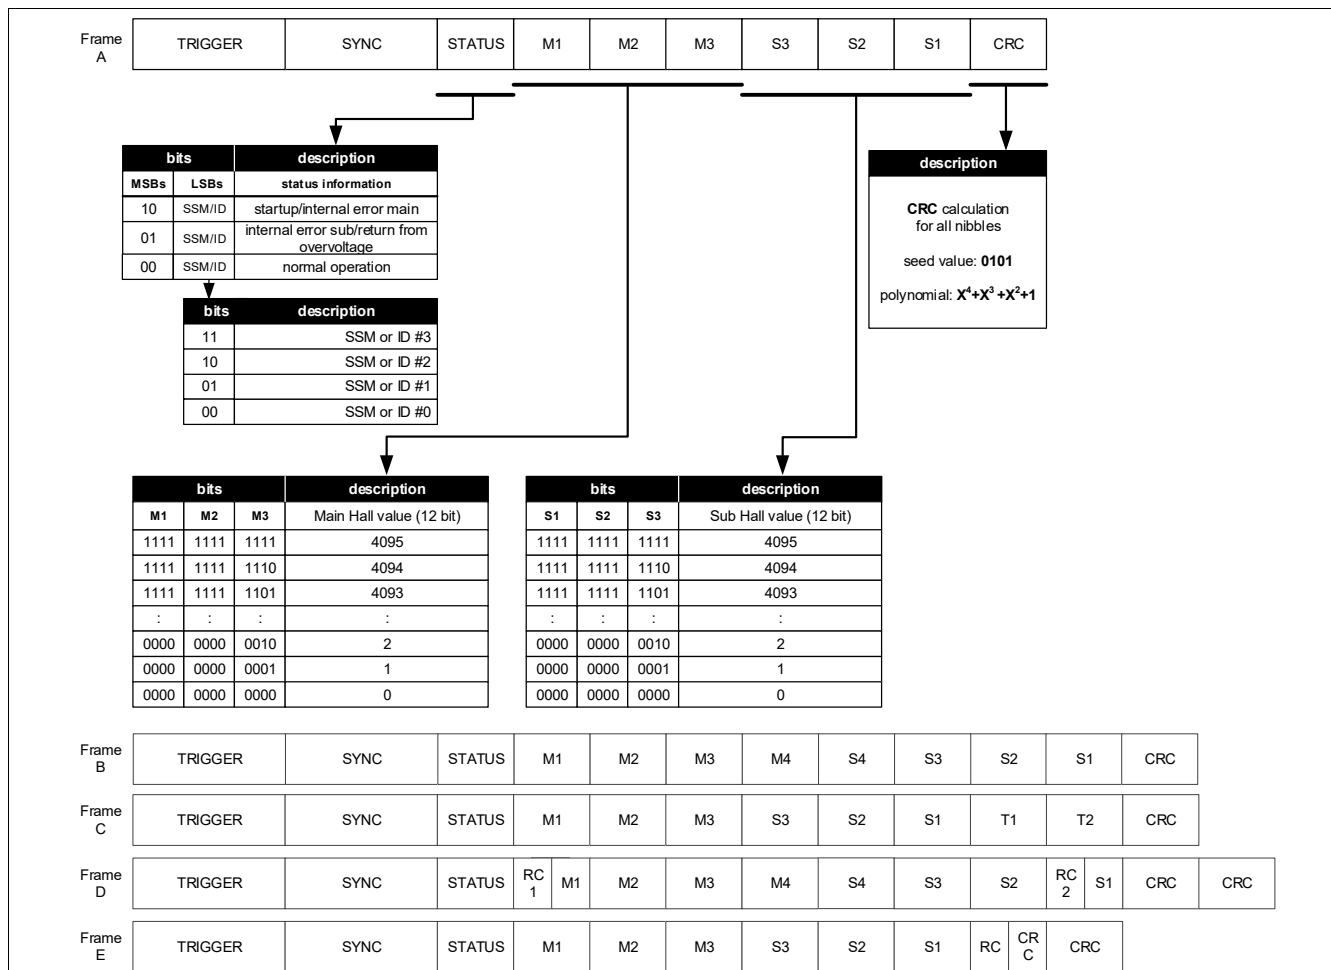

Figure 8 Content of the SPC protocol
1) Rolling counters combined with data nibbles, see Figure 8
2) Rolling counter combined with CRC nibble, see Figure 8
There are two selectable protocols that include the rolling counter (see Figure 8), on frame D a 2 bit rolling counter is included in the first main data nibble and another 2 bit rolling counter in the first sub data nibble.